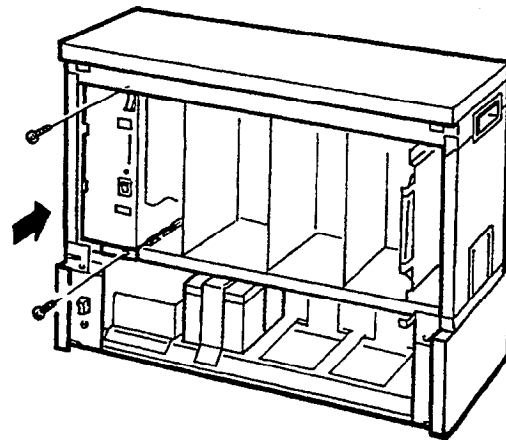

Figure 3-54 Installing the PSF-P-20 PSU in the Level II Advanced Basic KSU
1. Install the PSF-P-20 PSU in the left slot of the Level II Advanced Basic KSU and secure using the two provided bolts. Refer to Figure 3-54 - Installing the PSF-P-20 PSU into the Level II Advanced Basic KSU.